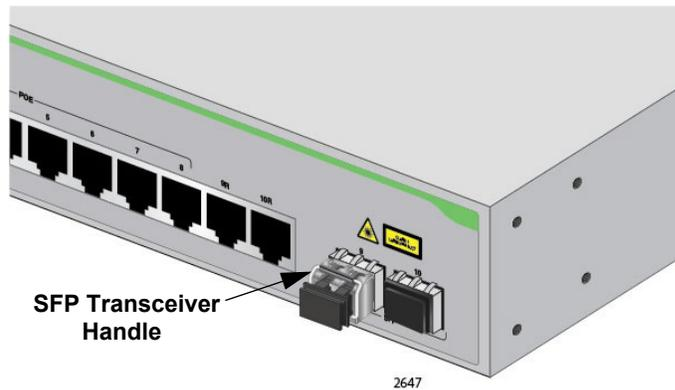

Figure 28. Positioning the SFP Handle in the Upright Position
- Verify that the handle on the transceiver is in the upright position, as shown in Figure 28. This secures the transceiver and prevents it from being dislodged from the slot.